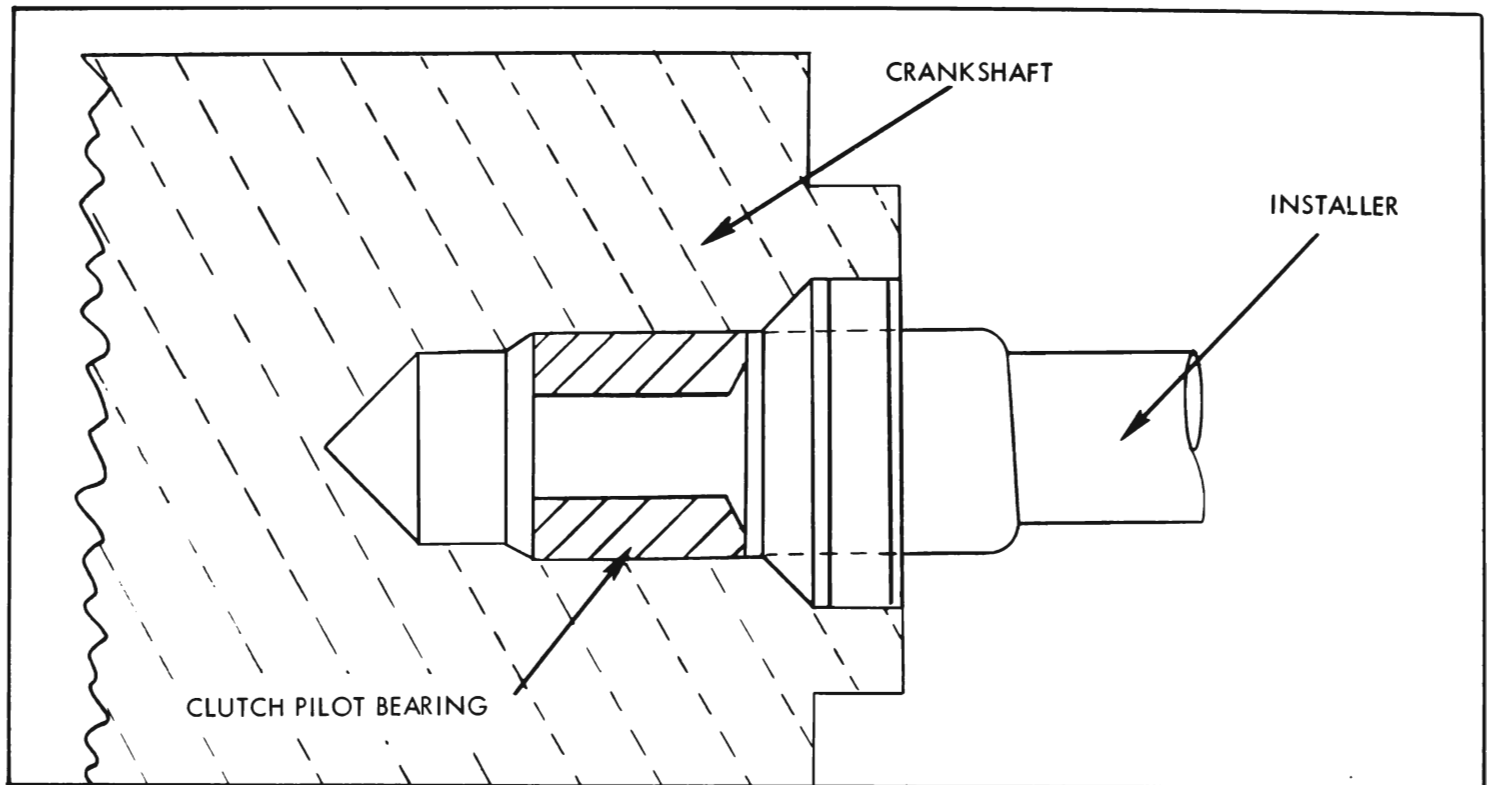

Figure 4-4—Pilot Bearing Installation
5. Check clutch pilot bearing for excessive wear or damage. If replacement is necessary, remove with J-1448. To replace bearing use J-1522 as shown in Figure 4-4.